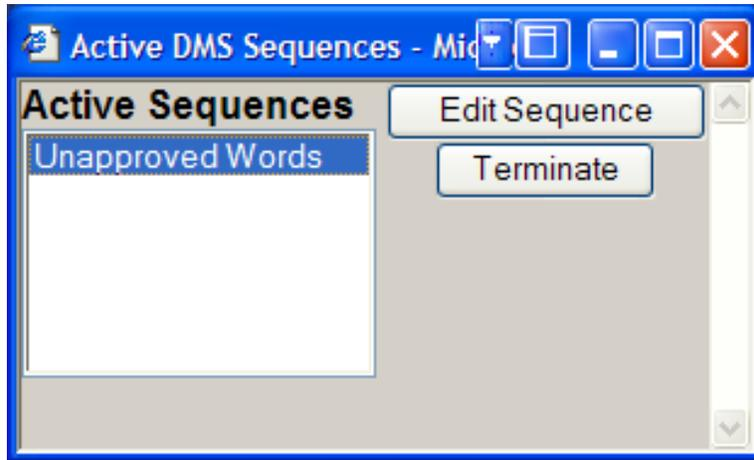

Figure 3–85 – Active Sequences Dialog
When the operator selects **Active Sequence** from the SunGuide context menu the dialog in Figure 3–85 is displayed.
- **Edit Sequence:** Selecting this option will allow the operator to edit the details of the sequence (uses the dialog shown in Figure 3–84).